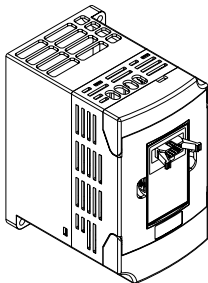

Fig. 3-5
STEP 2. Install the optional interface board at the position of keypad.(as shown in the figure 3-5).